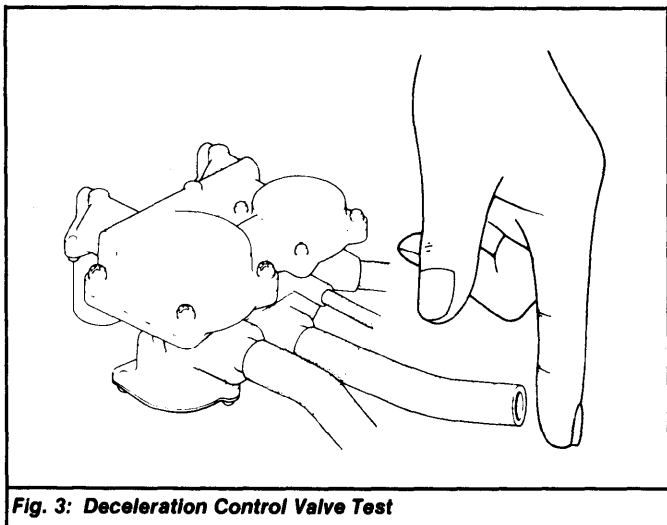

Fig. 3: Deceleration Control Valve Test
2) Connect tachometer to engine. Start and run engine at idle. Disconnect air hose from deceleration control valve at air cleaner. Block air hose opening with hand. See Fig. 3. Engine speed should not change noticeably.